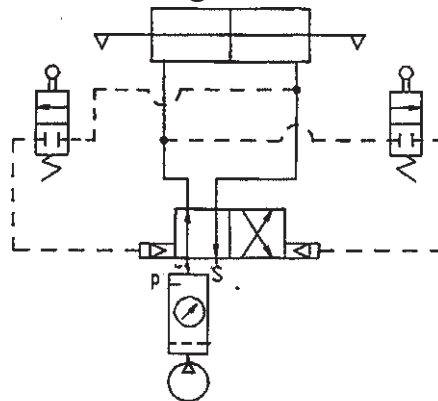

Fig. 1
- b) Analyze the circuit shown in fig 1. [4]